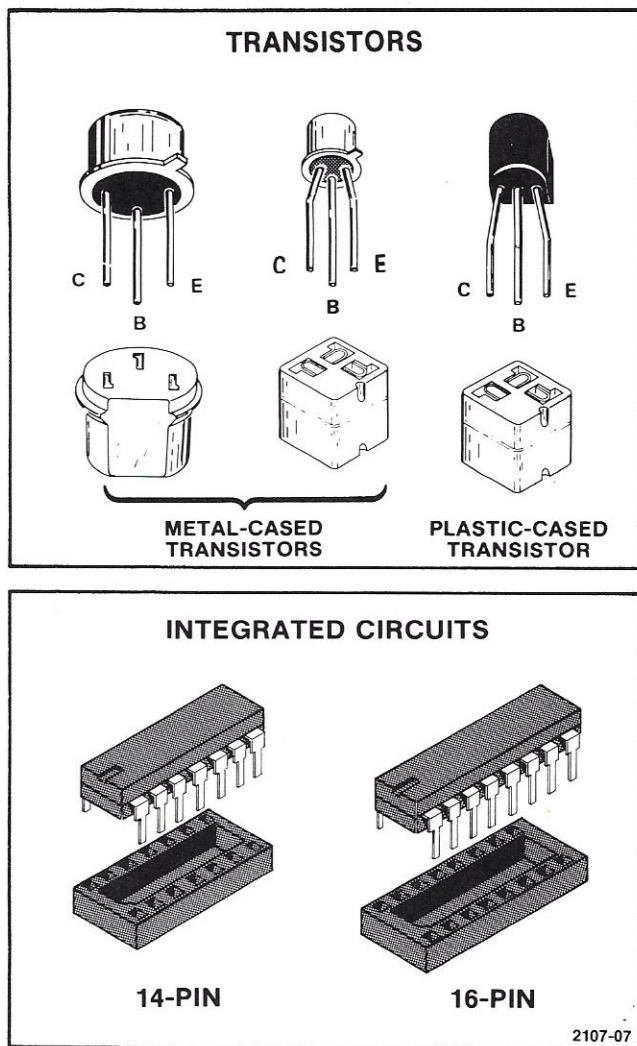

Fig. 6-4. Transistor and Integrated Circuit basing illustration.
Transistor and Integrated Circuit Lead Configurations. Fig. 6-4 illustrates the lead configurations for the socket-mounted transistors and integrated circuits (IC) used on the circuit board.